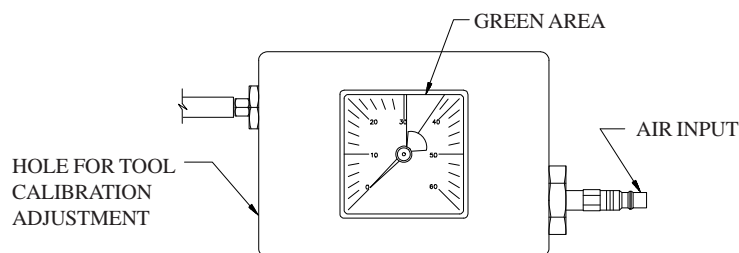

FIGURE 1
- 1.1 Plug the PBT1100 Control Box into an air supply between 90-120 psi. The indicator on the Control Box will rise to the green area (see Figure 1). If the indicator is not in the green area please check tool calibration and adjust as described in Section 2.0.
- 2.2.3 Using a blade screwdriver, insert through the hole in the side of the control box (see Figure 1) and rotate until it engages the slot in the air regulator adjustment knob. Rotate the knob of the regulator clockwise to increase the tension reading and counterclockwise to decrease the reading until the desired readings are attained to meet calibration requirements of Paragraph 2.1.5. **(Note: If the control box gage indicating needle does not fall within the green banded area, the PBT1100 should be returned to DMC for repair and recalibration).**
- 2.3.9 If the gage indicating needle still reads below the 140 lbs. value, insert a blade screwdriver through the hole in the side of the control box (see Figure 1) and rotate until it engages the slot in the air regulator knob. Rotate the knob clockwise to increase the tension reading to about 150 lbs.